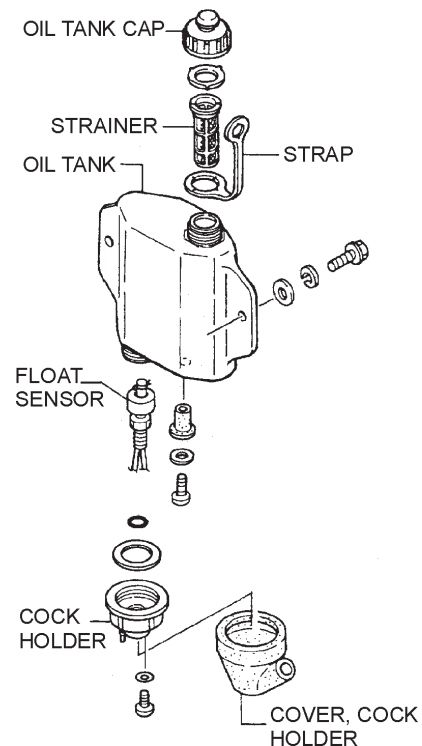

Figure 11. Oil Tank
- When cleaning the oil tank (Figure 11) perform the following procedure: